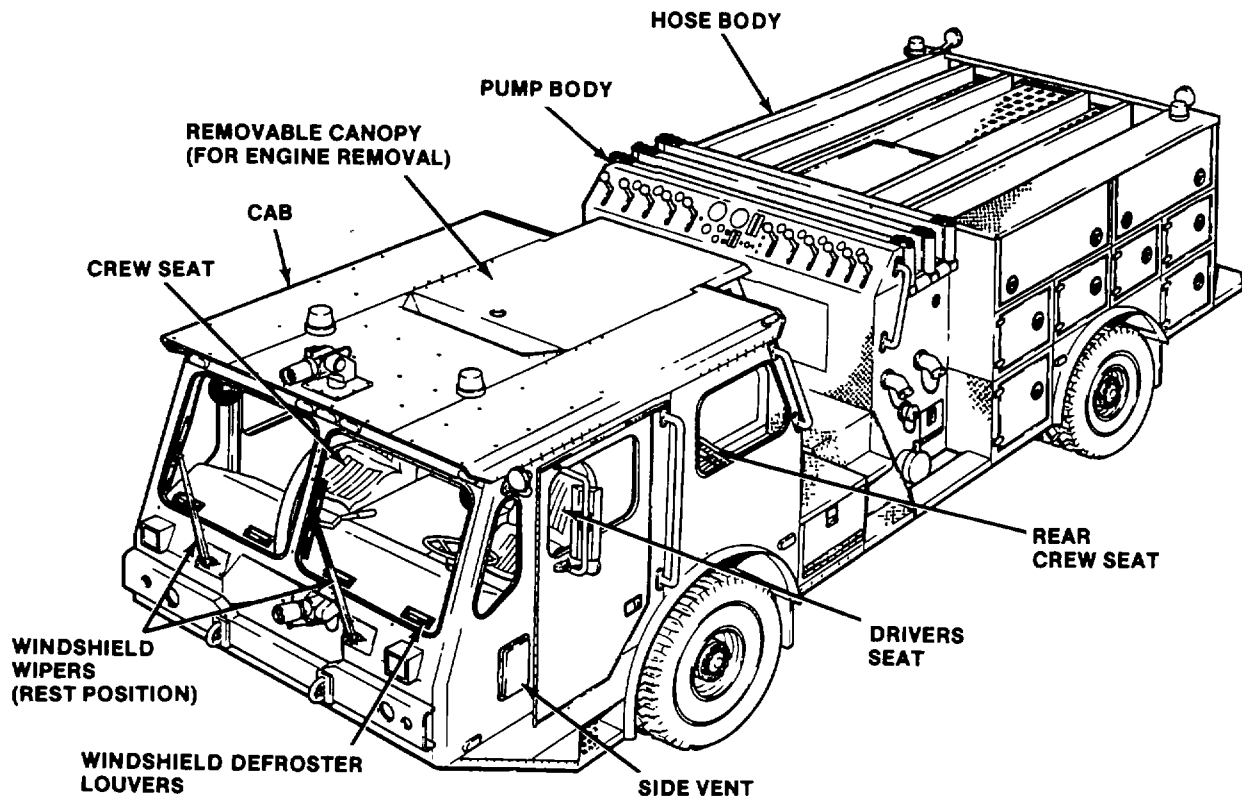

Figure 1-3 Cab and Pump Body Components - Left Side View
(1) The cab and body consists of three separate assemblies each attached to the frame by means of vibration absorbing rubber mounts. The cab, pump body, and hose body (see fig. 1-3) are fabricated of aluminum and insulated against heat and cold. The cab is divided by a fire wall making the front compartment fully enclosed. The front compartment accommodates the driver and one crewmember. The rear semi-enclosed compartment contains two rear facing crew seats. All crew seats are equipped with seat belts.